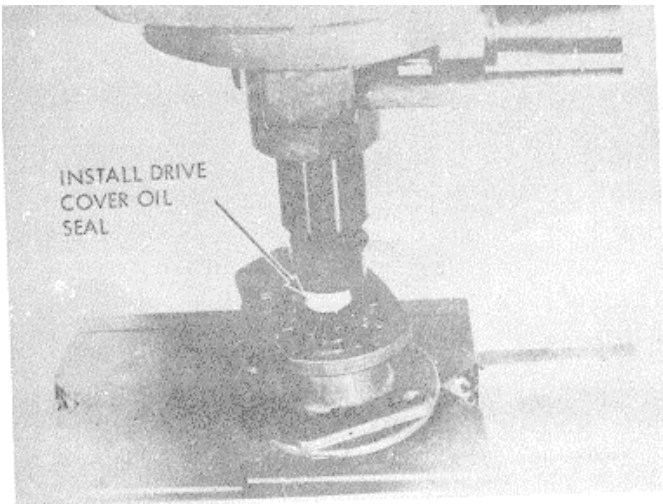

Figure 3-50. Drive cover oil seal installation.
(1) Clean all parts thoroughly with mineral spirits or equivalent.
(2) Press first oil seal into drive cover with lip toward outside of pump, and press second oil seal into drive cover with sealing lip toward inside of fuel pump. Seals must be spaced so the "telltale" hole is not covered, figure 3-50.